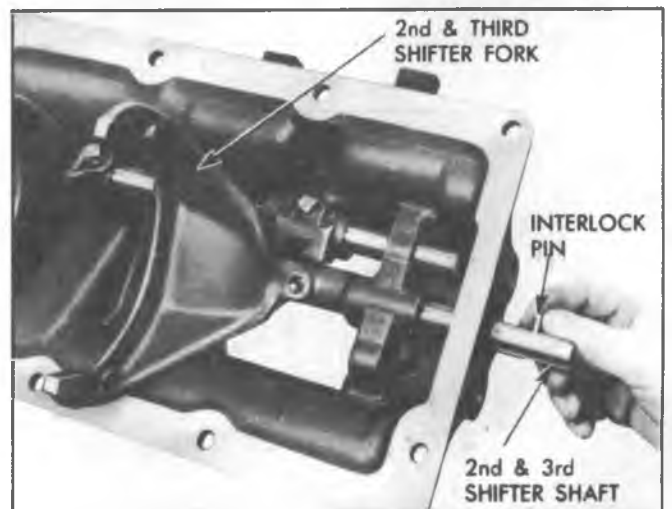

Fig. 13R--Installing 4th and 5th Shifter Fork
8. Install shifter fork on shaft with fork to front (fig. 13R). Install set screw and lock with wire.